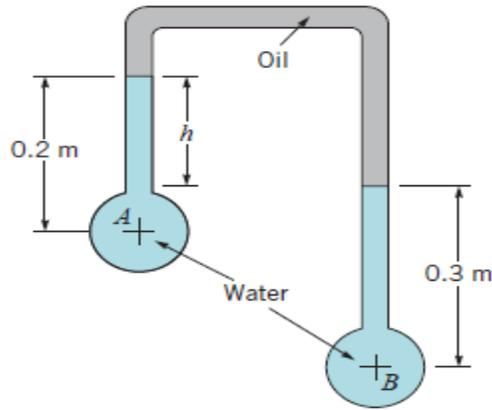

Fig. 3
4. The inverted U-tube manometer of Fig. 3 below contains oil ($SG = 0.9$) and water as shown. The pressure differential between pipes A and B, $p_a - p_b$ is -5 kPa. Determine the differential reading, h .